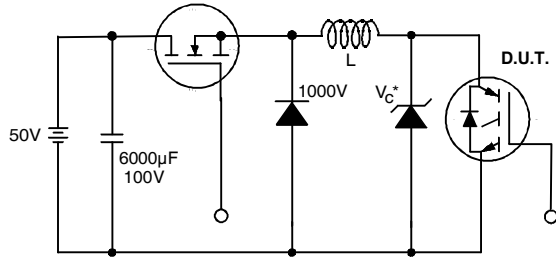

Figure 19. Clamped Inductive Load Test Circuit
- ② $V_{CC}=80\%(V_{CES})$, $V_{GE}=20V$, $L=10\mu H$, $R_G = 100W$ (figure 19)
- ③ Pulse width $\leq 80\mu s$; duty factor $\leq 0.1\%$.
- ④ Pulse width $5.0\mu s$, single shot.